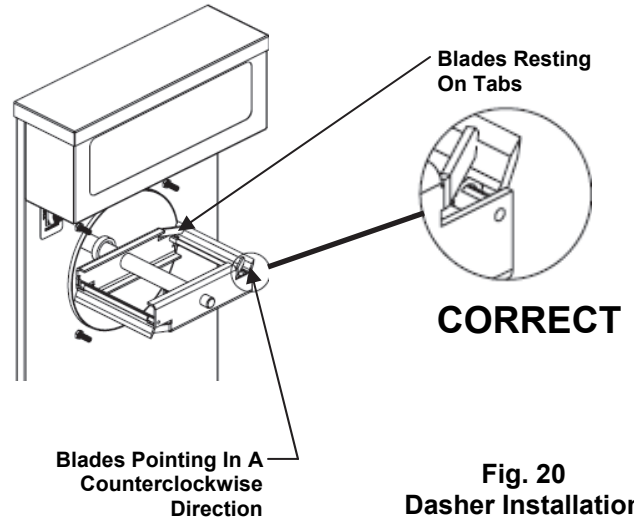
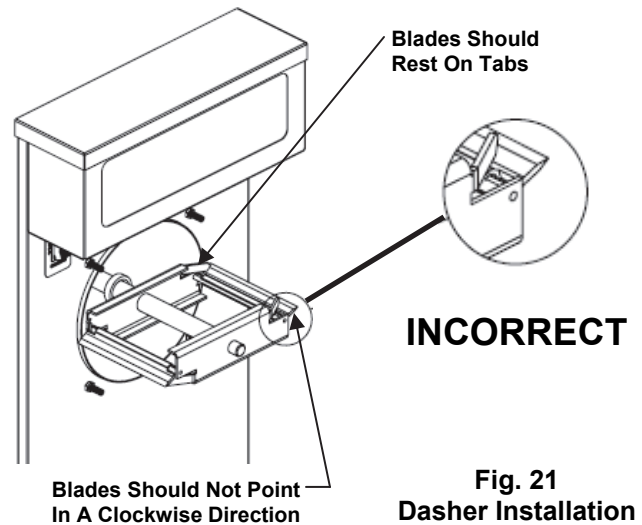

Fig. 20
Fig. 21
- f. Insert the dasher assembly into the freezing cylinder as far as possible (Fig. 20) being careful not to damage the scraper blades. Damage will occur to the scraper blades and the dispenser will not operate properly if the scraper blades are installed facing in a clockwise direction (Fig. 21).